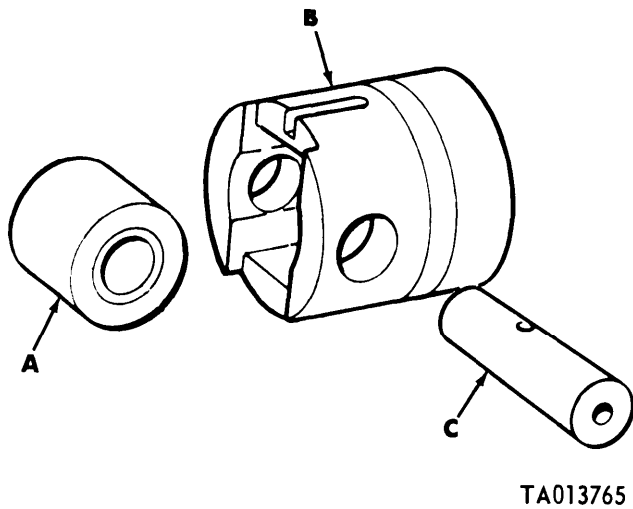

Figure 3-103. Disassembling or assembling tappet assembly.
3-29. Repair of Tappet Assembly. *a. Disassembly.* Refer to figure 3-103. Remove tappet roller pin (C) and tappet roller assembly (A) from tappet guide (B).
(3) Replace the tappet assembly or spring when they do not meet these requirements.
c. Assembly. Refer to figure 3-103 and reverse the sequence of instructions to assemble the tappet assembly.